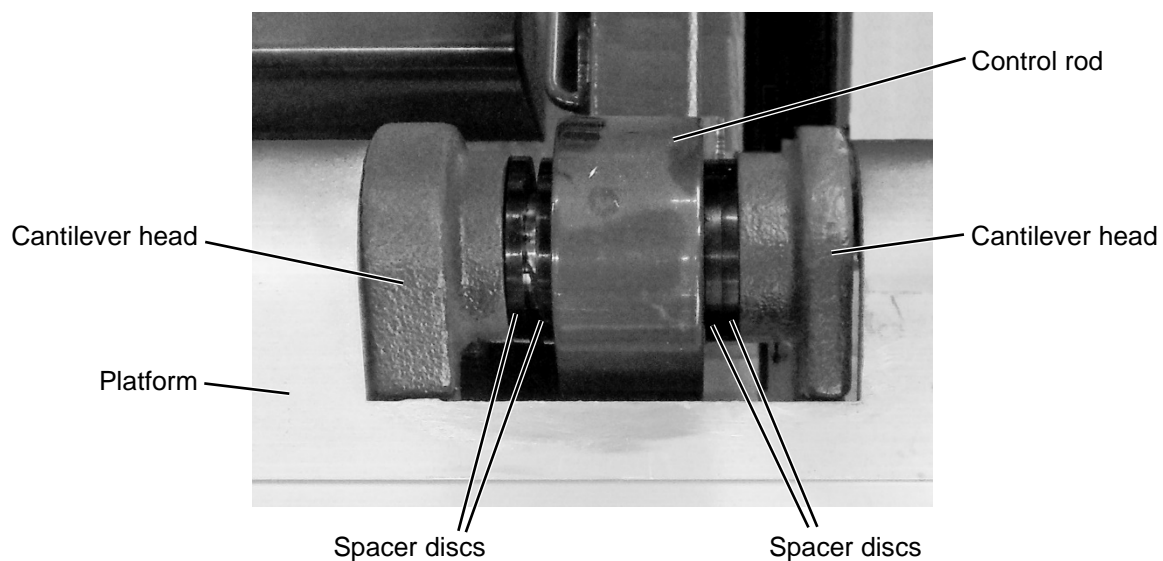

Figure 33: Spacer discs
- ▶ Bolt the cantilever heads of the platform to the control rods of the torsion frame. Insert the spacers **provided** to align the platform centrally with the superstructure (see Figure 33).